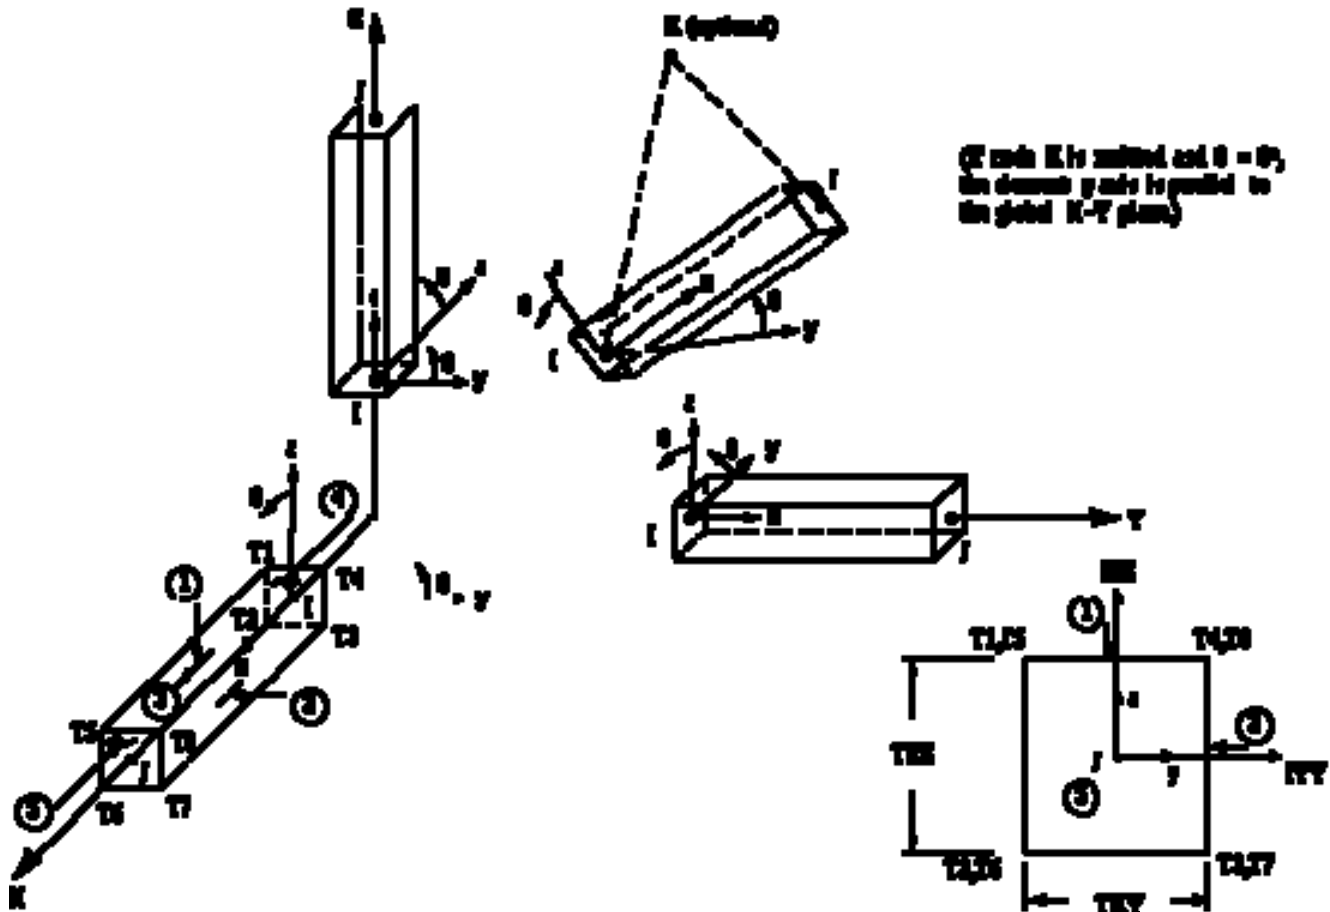

Figure 6 Beam4 orientation data from ANSYS manual
“The geometry, node locations, and coordinate systems for this element are shown in Figure 6]. The element is defined by two or three nodes, the cross-sectional area, two area moments of inertia (IZZ and IYY), two thicknesses (TKY and TKZ), an angle of orientation (Θ) about the element x-axis, the torsional moment of inertia (IXX), and the material properties. ... If IXX is not specified or is equal to 0.0, it is assumed equal to the polar moment of inertia (IYY+IZZ). IXX should be positive and is usually less than the polar moment of inertia. The element torsional stiffness decreases with decreasing values of IXX. ... “
The element x-axis is oriented from node I toward node J. For the two-node option, the default ($\Theta=0^\circ$) orientation of the element y-axis is automatically calculated to be parallel to the global X-Y plane. Several orientations are shown in [Figure 6]. For the case where the element is parallel to the global Z axis (or within a 0.01 percent slope of it), the element y axis is oriented parallel to the global Y axis (as shown). For user control of the element orientation about the element x-axis, use the Θ angle (THETA) or the third node option. If both are defined, the third node option takes precedence. The third node (K), if used, defines a plane (with I and J) containing the element x and z axes (as shown).” [End paraphrasing.]